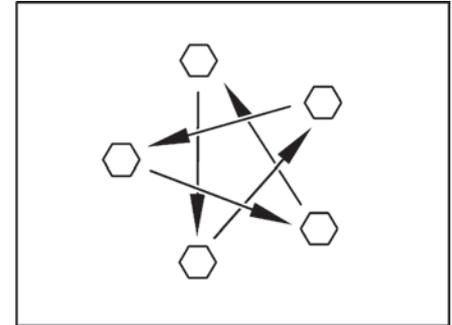

Fig. 115 Tighten the wheel nuts or wheel bolts cross-wise
- Check regularly that the wheel nuts or wheel bolts are firmly seated. Re-tighten the wheel bolts of a changed wheel cross-wise after 50 km (30 miles) (Fig. 115).
- ▶ Tighten the wheel nuts or wheel bolts cross-wise (Fig. 115).